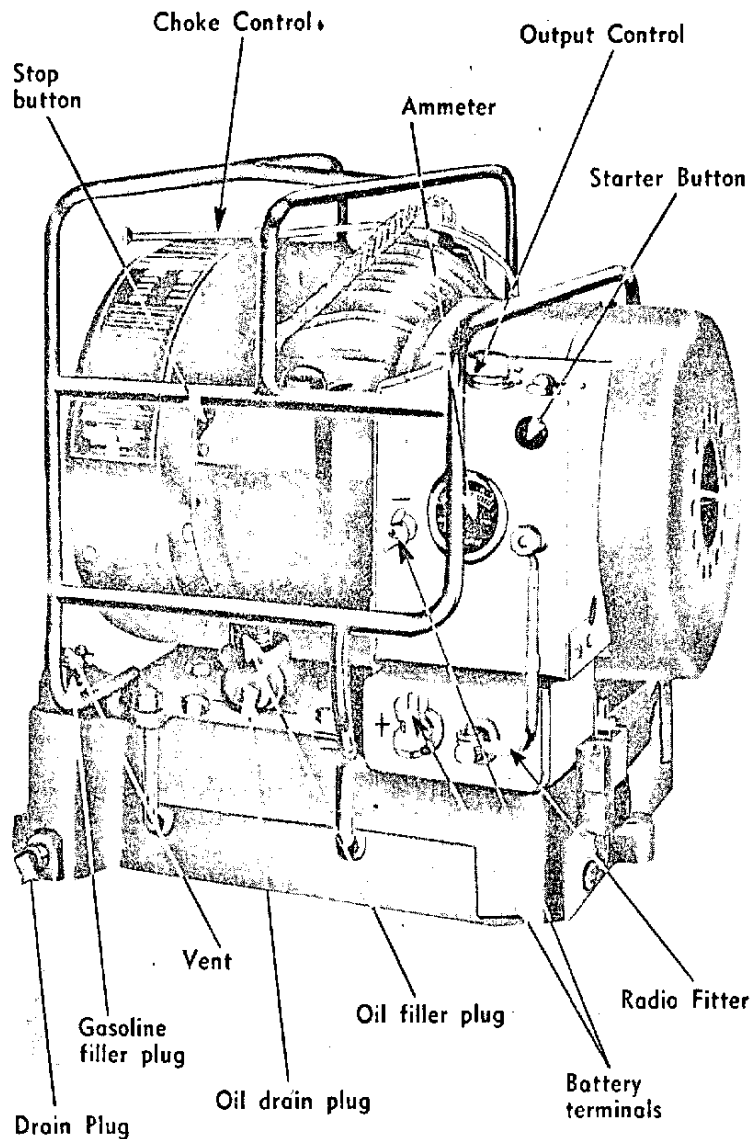

Fig. 25—Charging Sets 300 Watt Mk I Canadian
Fig. 25 shows the location of the petrol and oil plugs and of the controls. The petrol and oil are not mixed. A vent on the petrol filling plug must be open when the Charging Set is running, and closed when it is stopped.
**TO STOP:** Depress the Stop Button, located on the back of the Magneto plate (See Fig. 25) and hold it down until the engine has completely stopped turning.